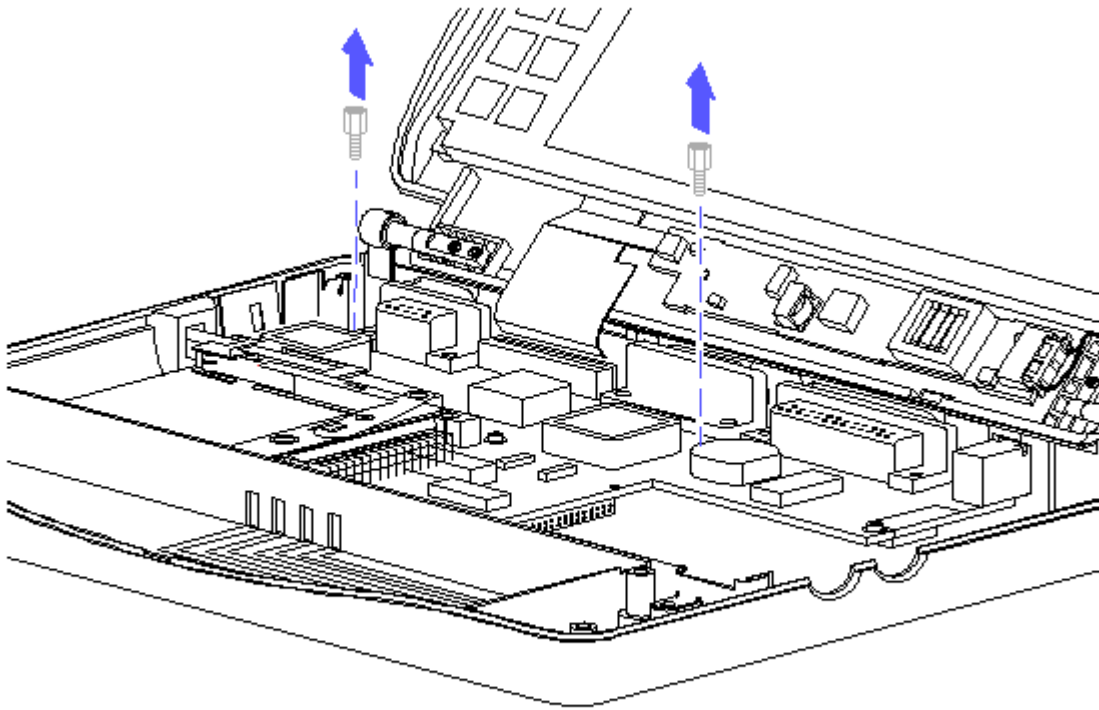

Figure 3-47. Removing the Standoffs
9. Open the computer and remove the two remaining standoffs from the system board with a hex socket driver (Figure 3-47).